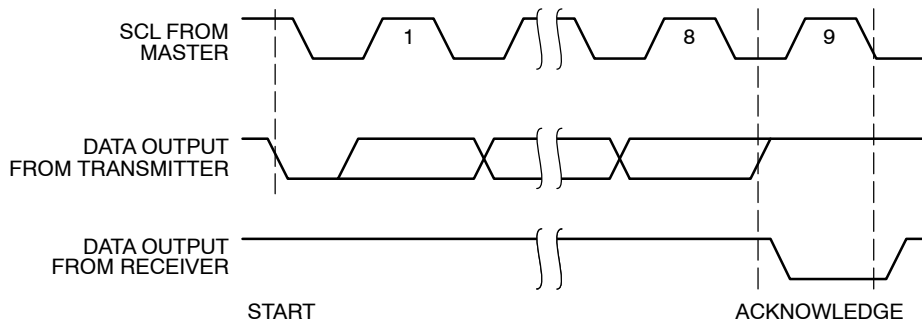
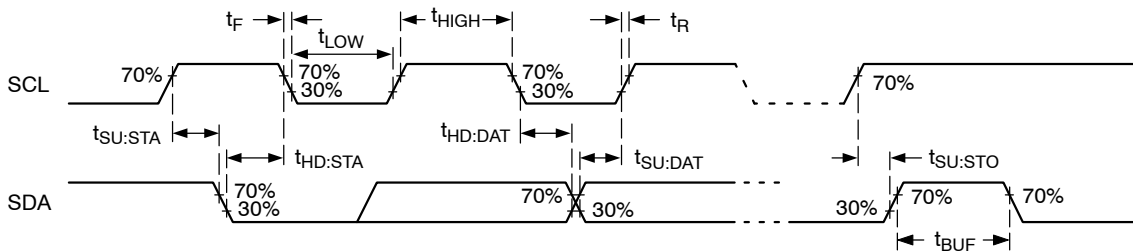

Figure 10. Acknowledge Timing
Figure 11. Bus Timing
3. Timing reference points are set at 30%, respectively 70% of V_{CC} , as illustrated in Figure 11. Bus loading must be such as to allow meeting the V_{IL} , V_{OL} as well as the various timing limits.
A matching Slave address is acknowledged (ACK) by the Slave by pulling down the SDA line during the 9th clock cycle (Figure 10). After that, the Slave will acknowledge all data bytes sent to the bus by the Master. When the Slave is the transmitter, the Master will in turn acknowledge data bytes in the 9th clock cycle. The Slave will stop transmitting after the Master does not respond with acknowledge (NoACK) and then issues a STOP. Bus timing is illustrated in Figure 11.